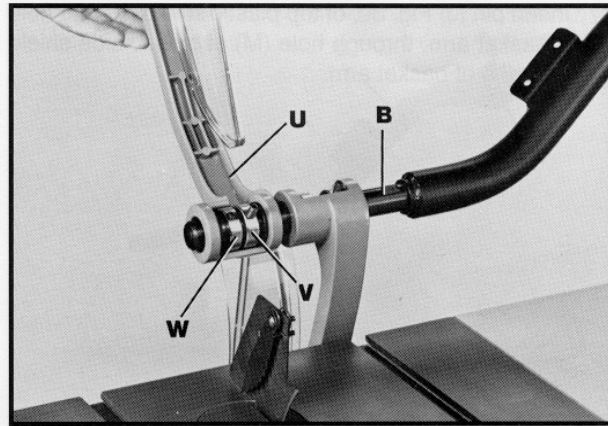

Fig. 34
21. Assemble the remaining basket arm (U) Fig. 34, collar (V) with long set screw and collar (W) with short set screw to extension arm (B), as shown.